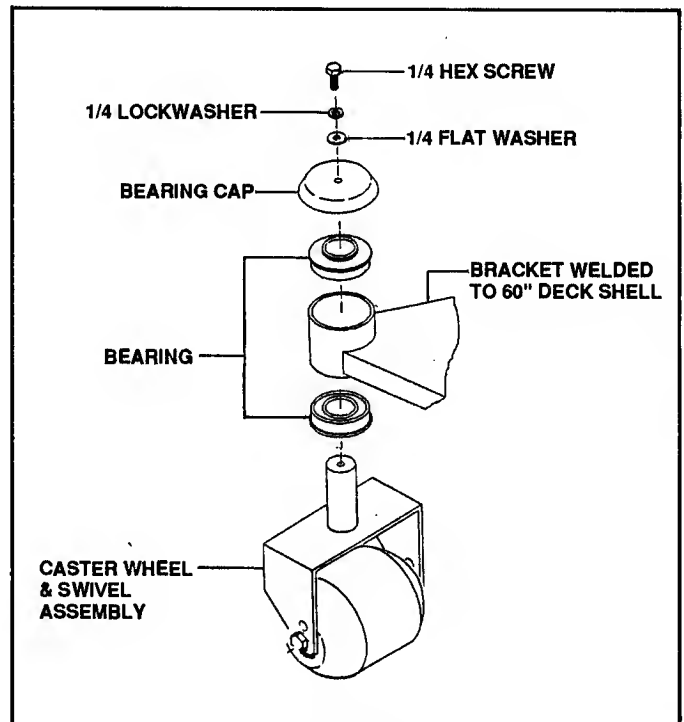

FIGURE 11.23
- (c) Remove 1/4" Hex Screw from top of bearing cap. See Figure 11.23.